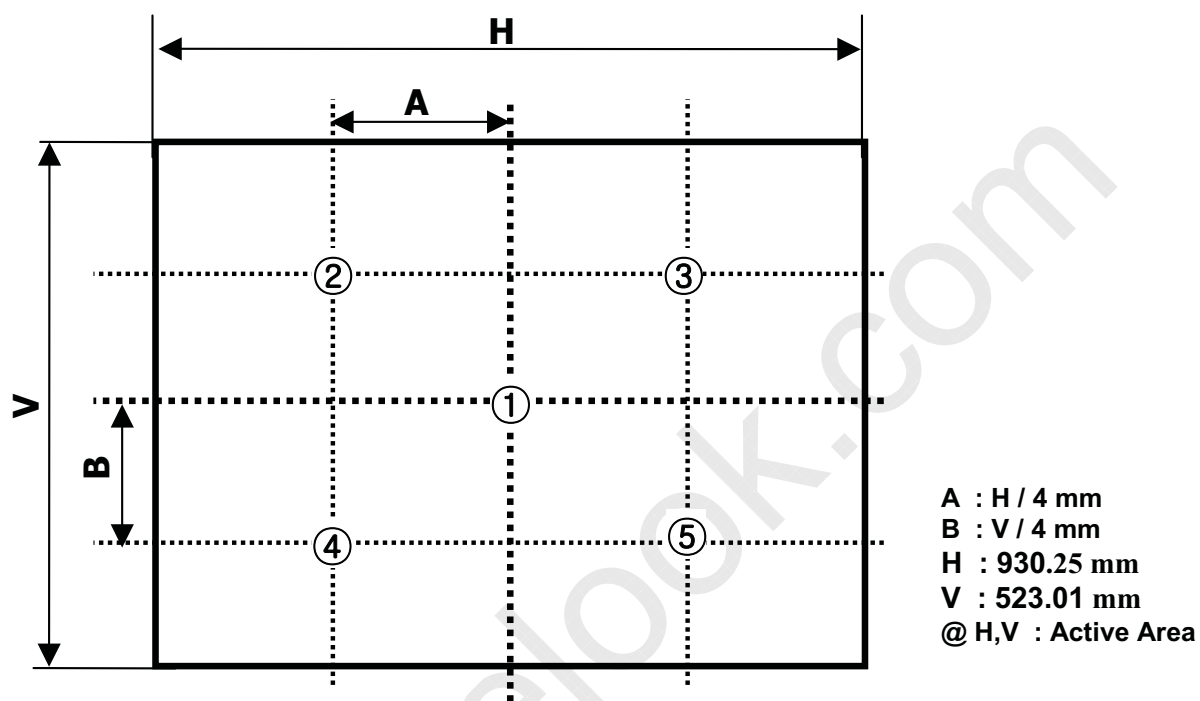

FIG. 2 Measure Point for Luminance
- Surface luminance is the luminance value at center 1-point across the LCD surface 50cm from the surface with all pixels displaying white. For more information see FIG 2.
For more information, see FIG 2.